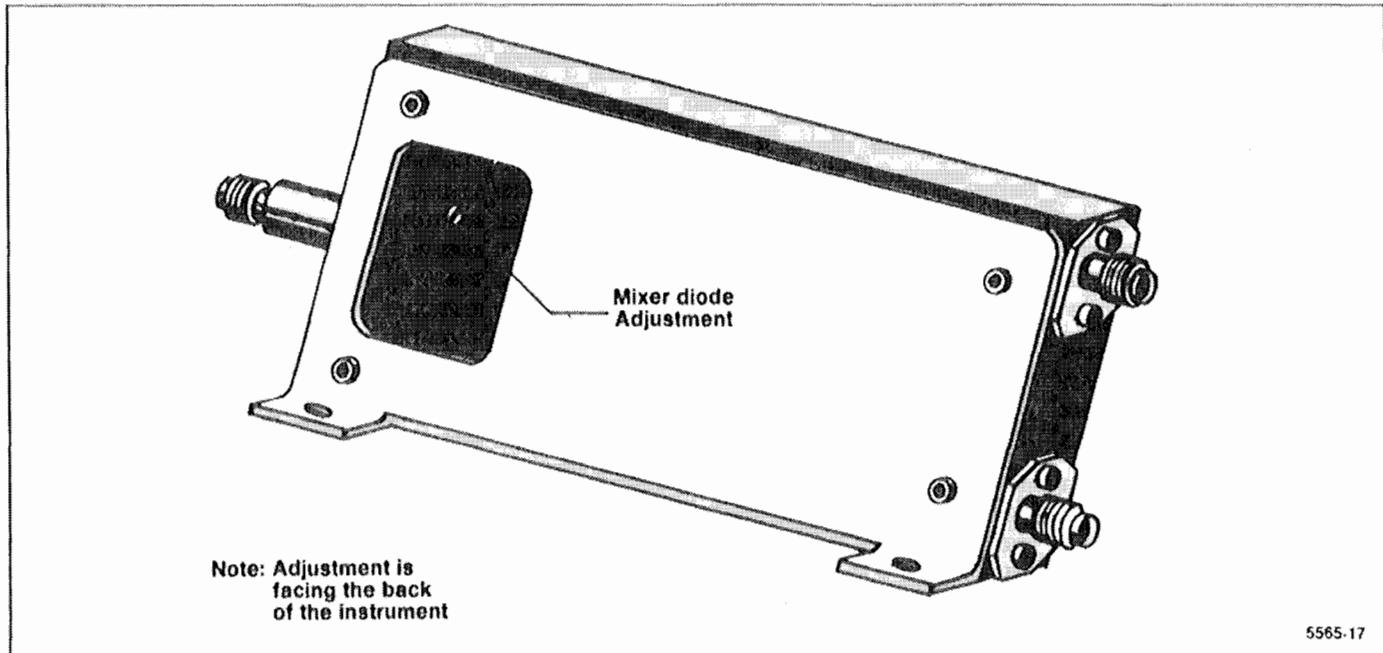

Figure 5-12. 1st Mixer adjustment location.
g. Adjust R1013 for a null in the amplitude of the 0 Hz response. (Be sure that the dc level at TP1011 DOES NOT exceed +0.1 V as R1013 is adjusted), because this will degrade flatness.) Use a thin screw driver to adjust the tuning screw on the 1st Mixer Diode assembly A12A1. (The tuning screw is towards the rear of the instrument, see Figure 5-12.) Alternately adjust R1013 and the tuning screw for minimum amplitude.